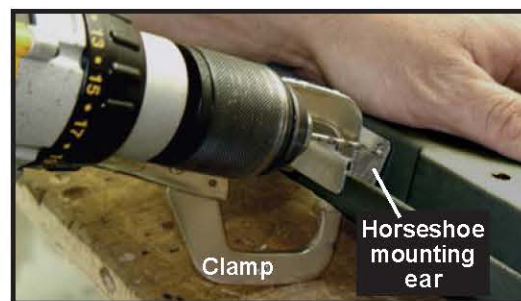

Figure 70
3. Using a 7/64” (3mm) drill bit, drill two pilot holes into the Drive Side Plate, through the existing holes in the horseshoe’s mounting ear (*Figure 70*).